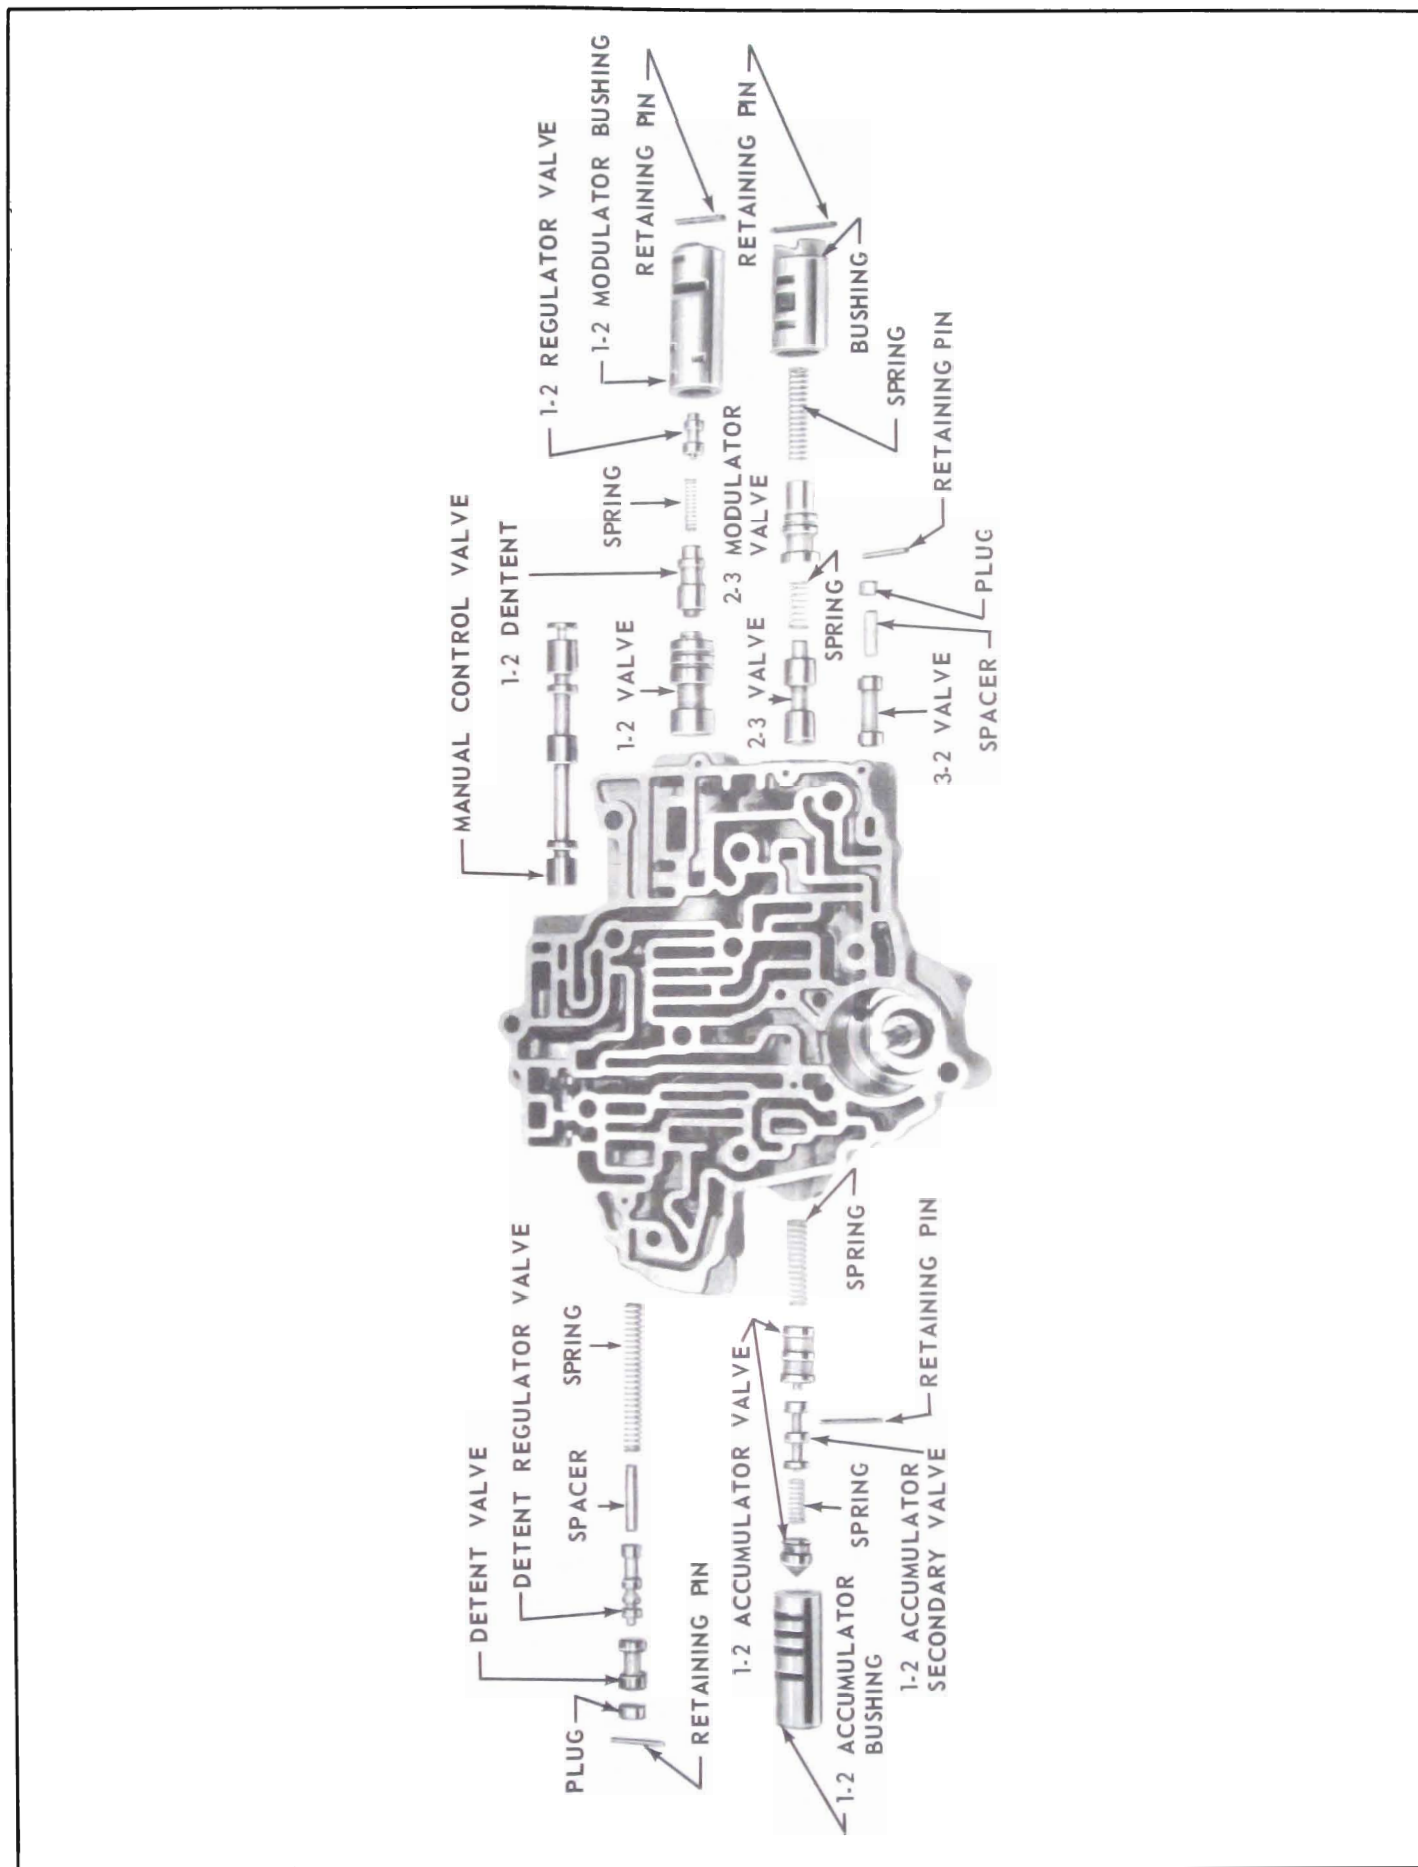

Figure 5-582
5. On the right side, top bore, remove the retaining pin, 1-2 modulator bushing, 1-2 regulator valve, and 1-2 regulator spring. See Figure 5-582.
6. Remove the 1-2 detent valve and 1-2 valve. See Figure 5-582.
7. From the next bore, remove the retaining pin and 2-3 valve spring, 2-3 modulator bushing valve, and 3-2 intermediate spring. See Figure 5-582.
8. Remove the 2-3 valve. See Figure 5-582.
9. From the next bore remove the retaining pin, bore plug, 3-2 valve and spacer. See Figure 5-582.
10. At the other end of the assembly, top bore, remove the retaining pin and bore plug. See Figure 5-582.
11. Remove the detent valve, detent regulator valve, spring and spacer. See Figure 5-582.
12. In the next bore, check the operation of the 1-2 accumulator valve train by compressing the valve against the springs. See Figure 5-582.
3. If the 1-2 accumulator valve train was removed, install the 1-2 primary spring in the 1-2 primary valve into bore using a retaining pin as a retractor to hold the spring and valve in its operating position until bushing and 1-2 accumulator valve and spring is installed. See Figure 5-582.
into the 1-2 accumulator bushing. See Figure 5-582.
7. Install the 1-2 accumulator valve, secondary spring and 1-2 accumulator plug into the bushing. See Figure 5-582.
10. Install the detent regulator valve. Wide land first. See Figure 5-582.
11. Install the detent valve, narrow land first. See Figure 5-582.
12. Remove the screwdriver as the bore plug (hole out) and retaining pin are installed. See Figure 5-582.
13. In the lower right hand bore, install the 3-2 valve. See Figure 5-582.
14. Install the spacer, bore plug (hole out) and retaining pin. See Figure 5-582.
15. In the next bore up, install the 2-3 valve, stem end out, and 3-2 intermediate spring. See Figure 5-582.
16. Install the 2-3 modulator valve into the bushing and install both parts into the valve bore. See Figure 5-582.
17. Install the 2-3 valve spring, and install the retaining pin. See Figure 5-582.
1-2 valve, stem end out. See Figure 5-582.
19. Install the 1-2 regulator valve, spring and detent valve, into the bushing, aligning spring in bore of detent valve, and install parts into the valve bore. See Figure 5-582.
20. Compress the bushing against the spring and install the retaining pin. See Figure 5-582.
21. Install the manual valve with detent pin groove to the right. See Figure 5-582.